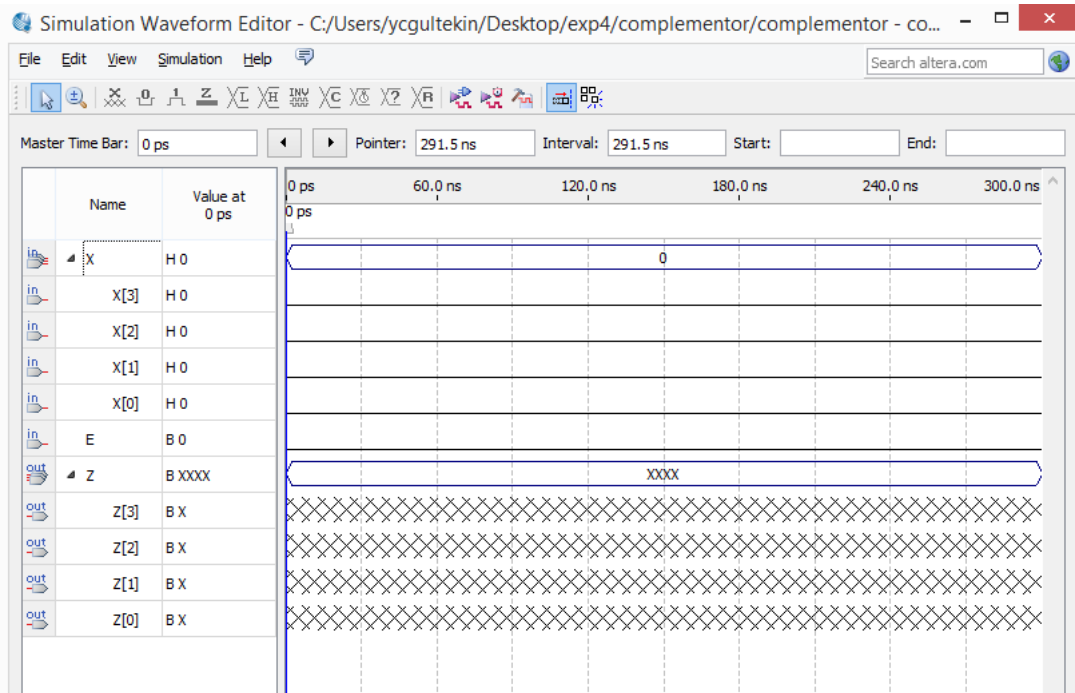

Figure 4.16 One possible way to visualize the inputs/outputs
35. If you extend your 4-bit input groups by double clicking on their names, the waveform will be seen like in Figure 4.16. Otherwise they will be seen like they have a single value (which is actually the case.)